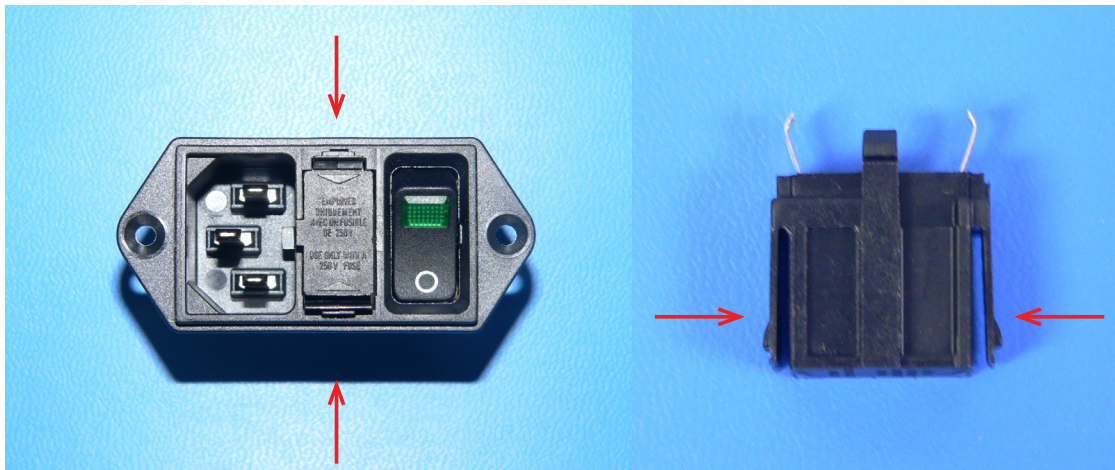

FIGURE 18: FUSE BOX TABS
2. Using the needle nose pliers, carefully extract the fuse box from the power entry module by squeezing down on the fuse box tabs in the slots as shown in Figure 18.